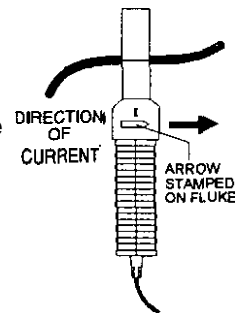

Figure 9
501-10. Display parameter 6 (I Batt) by pressing [DISPLAY] [6] [ENTER]. Using the clamp-on AC/DC probe, set the digital multimeter for **mV**. Measure at the negative battery cable with the probe. The **arrows stamped on the current probe must match the flow of current you are measuring**. (See Figure 9.) If the result is different from the value displayed for parameter 6, change the value of parameter 6 by pressing [PROGRAM], entering your measured value, and pressing [ENTER].
- 502-7. The next two (2) measurements **must** be done while the UPS is running on **inverter**. Remove AC input power and let the unit run for approximately one (1) minute before you go on.
- 502-I 0. Display parameter 6 (I Batt) by typing **d 6** and pressing **<ENTER>**. Using the clamp-on AC/DC probe, set the digital multimeter for **mV**. Measure at the negative **battery** cable with the probe. The arrows stamped on the current probe must match the flow of current you are measuring. (See Figure 9 on page 7.) If the result is different from the value displayed for parameter 6, change the value of parameter 6 by typing **pr** at the "Service=>" prompt, entering your measured value at the "=>" prompt, and pressing **<ENTER>**.